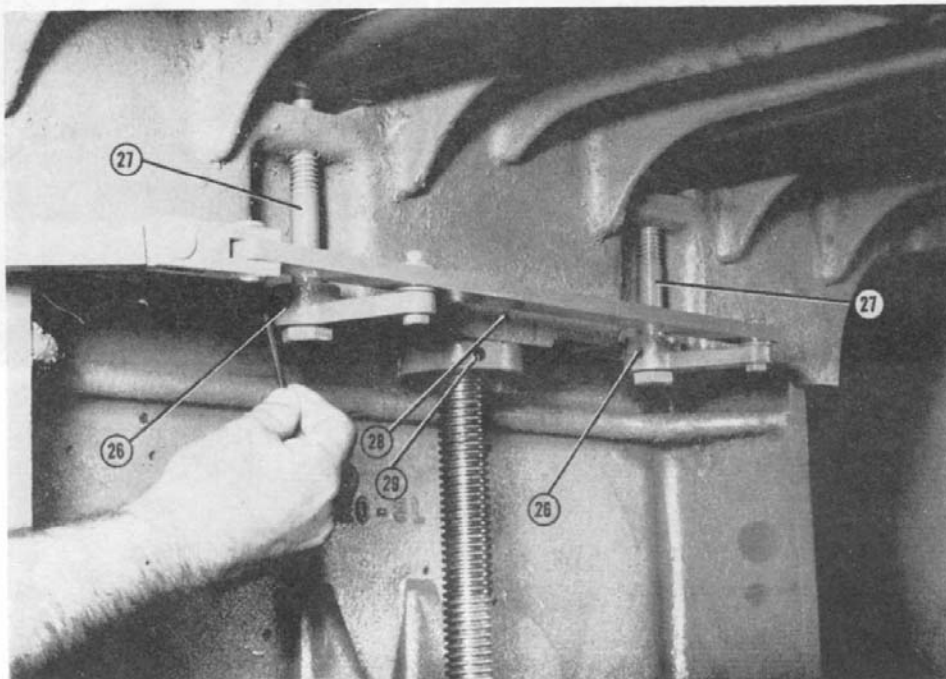

Figure 4
can be checked by lowering the bed to permit placing a small jack-screw type gauge (or small square block) between the bed and the cutterhead at the extreme right side of the bed. Raise the bed with the handwheel until the block or gauge just touches the cutterhead and move the block or gauge to the left side of the table and check the cutterhead. If the bed is not level with the cutterhead, raise or lower the bed by loosening screw (28) fig. 4 and turning screw nut (29) to the right or left to raise or lower the bed to the proper height. When adjusted to proper height so as to be level with cutterhead, lock in place with set screw (28) fig. 4.
The planer bed rollers are adjusted to the proper height with the quik-set handle mounted on the right side of the planer bed. The height of the rollers above the bed surface is indicated by a graduated dial on the planer bed and a pointer on the quik-set handle. If the height of the table rollers do not correspond with the height indicator scale, adjustments can be made by loosening the set screw (26) fig. 4 in the roller adjusting arms. Set indicator pointer at Zero on the gauge and turn adjusting screws (27) until the bed rollers are level with the planer bed; tighten the set screws (26).